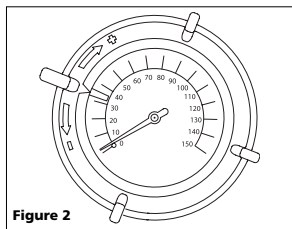

Figure 2
- 3) Set automatic shut-off gauge by turning ring on gauge until bottom edge of pointer is just above the desired pressure (see Figure 2).